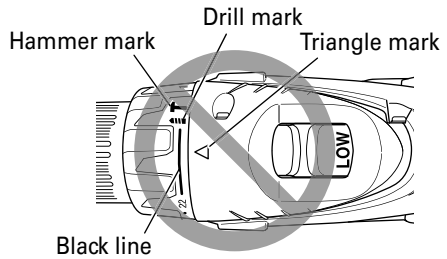

Fig. 6
- Do not use with the clutch dial numeral between "22" and the black line at the middle of the drill mark. Doing so may cause damage (See Fig. 6).